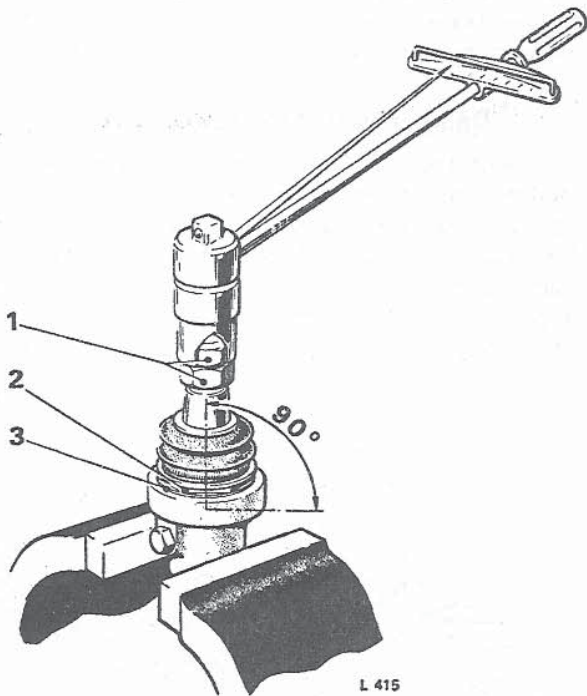

FIG. H11 SETTING DAMPER BALL JOINT PRE-LOAD
1. Fit and lightly clamp the ball joint housing in a vice as shown in Figure H11.